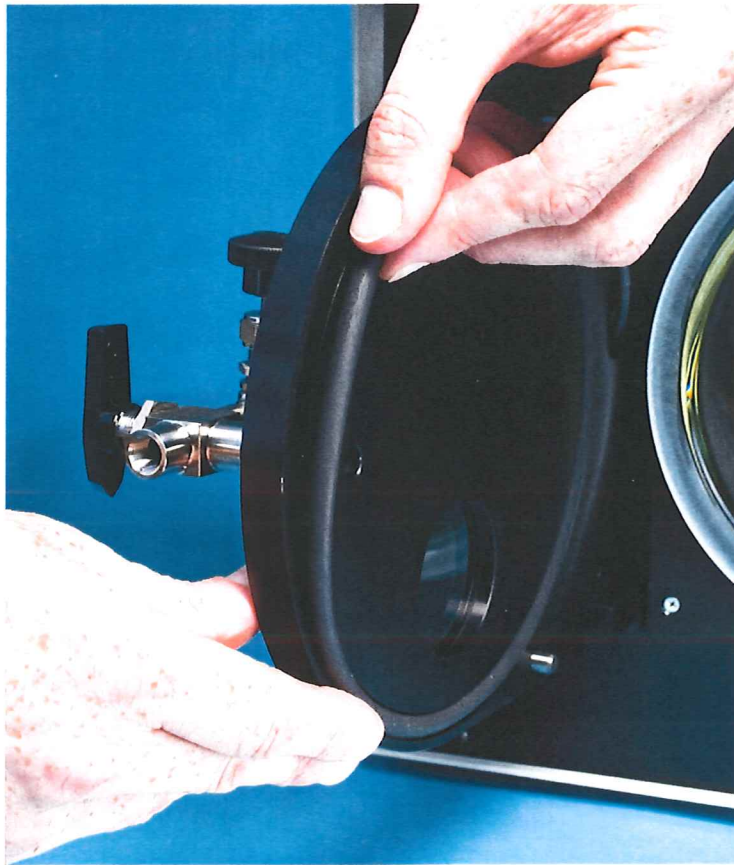

Figure 14 • Removing the O-Ring on the Plasma Cleaner Door
- Remove the o-ring from the Plasma Cleaner door (Figure 14).